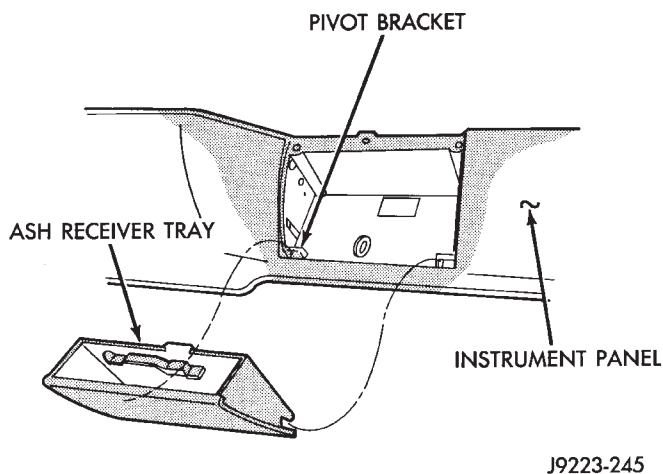

Fig. 10 Ash Receiver Tray
- (1) Remove the ash receiver tray from instrument panel (Fig. 10).